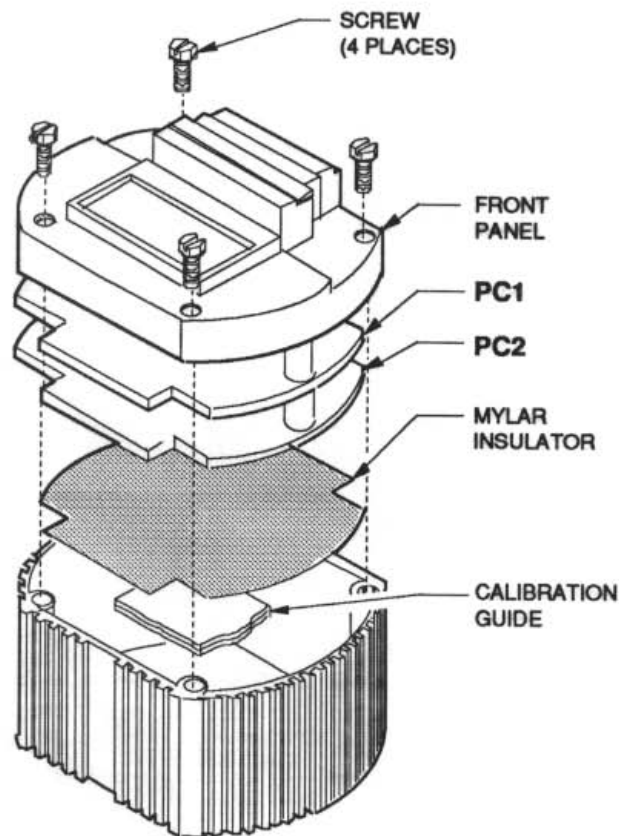
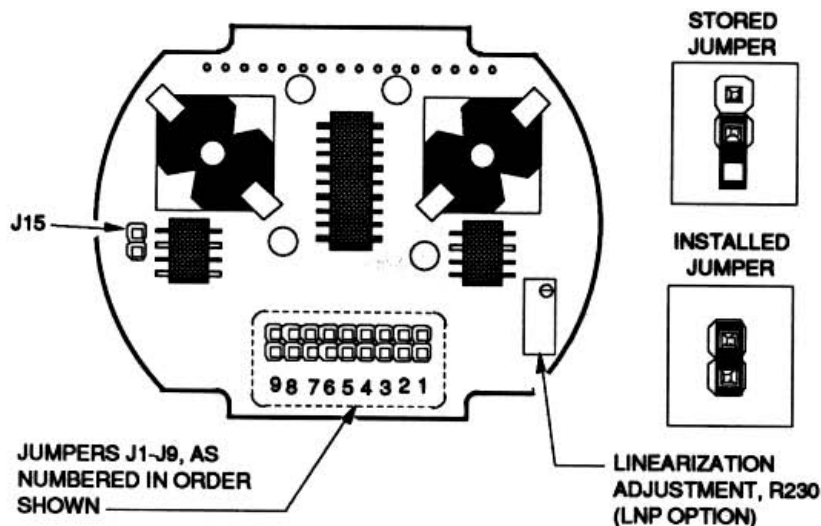

Figure 1. HP Housing Disassembly, Accessing PC2
Figure 3. PC2 Component Locations
Figure 1 shows the disassembly required to access PC2 in HP-style units. There is no need to detach the printed circuit (PC) boards from the front panel. Once the four external screws are removed, you simply pull the front panel, with PCB's attached, out of the case. You must rotate the front panel and PCB's to reveal the component-side of PC2.
Figure 3 shows the location of the Linearity Pot, R230, on PC2. PC2 has the same outline and board layout for both the HP- and DIN-style units. The actual LNP adjustment is described later in this section.
The RIX allows for field-configuration of the input span range and sensor type using removable jumpers. All jumpers are located inside each unit on PC2. Figure 3 shows the location and identification of each jumper. To access the jumpers, the HP-style RIX must be partially disassembled, and the right-side panel of the DIN-style unit will have to be removed. See figures 1 and 2.
If a particular jumper setting is required, a removable jumper is slid on to two adjacent pins. If a jumper setting for a particular location is not required, the jumper is stored by placing it on only one pin, as shown in figure 3.
The LNP Option provides an additional internal adjustment located on PC2. To access the linearity pot (R230), the HP-style unit must be disassembled and the right-side panel of the DIN-style unit must be removed. See figures 1 and 2 for disassembly. See figure 3 for the location of R230.